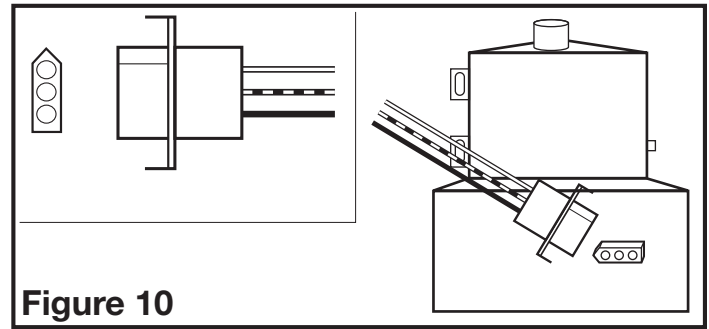

Figure 10
3. Plug the fan's quick connect motor cord into the receptacle. This cord will only fit one way into the receptacle (Figure 10).